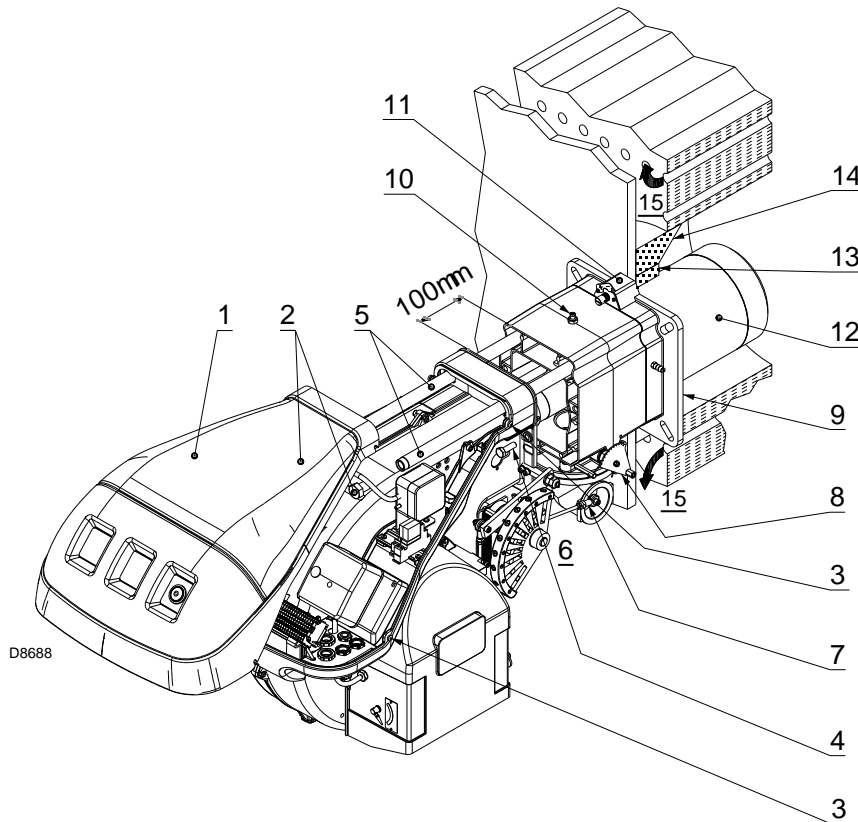

Fig. 11
The length of the blast tube 12)(Fig. 11) must be selected according to the indications provided by the boiler manufacturer, and in any case must be greater than the thickness of the boiler door complete with its refractory.
For boilers with a front flue gas passes 15)(Fig. 11) or flame inversion chamber, a protection device in refractory material 13) must be inserted between the boiler fettling 14) and the blast tube 12).
Separate the combustion head from the rest of the burner, as shown in Fig. 11.
Once this operation (if necessary) has been carried out, fix the flange 11)(Fig. 11) to the boiler plate, interposing the insulating gasket 9)(Fig. 11) supplied.
- reassemble the burner on the guides 3), about 100mm from the pipe coupling 4) - burner in the position shown in Fig. 11;